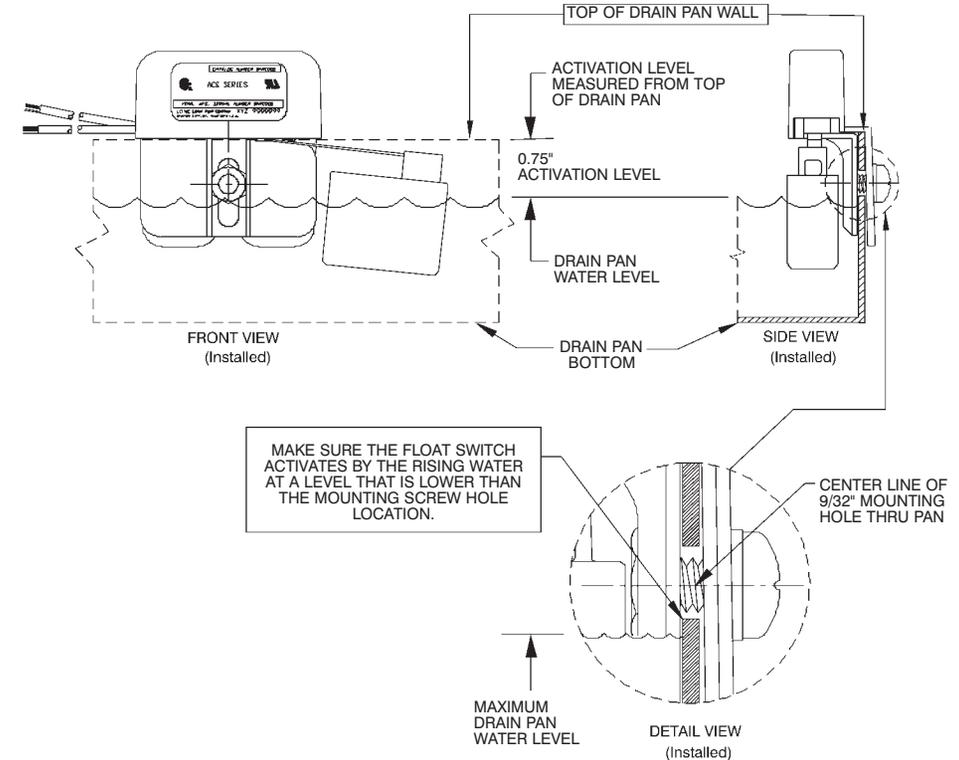

Figure 4
5. Plug the drain hole of the condensate drain pan. Temporarily position the ACS in the desired location without the screw, nut or sealing washer so that the switch housing and switch cover are against the drain pan wall (refer to Figure 2). Start filling the drain pan with water until the float lifts up and activates the switch. Make sure that the water level does not approach or overflow the drain pan. There will need to be a sufficient gap (usually $\frac{3}{4}$ ") between the highest water level required to activate the switch and the top of the drain pan (see Figure 4). Confirm the float can travel its full range with no obstructions.